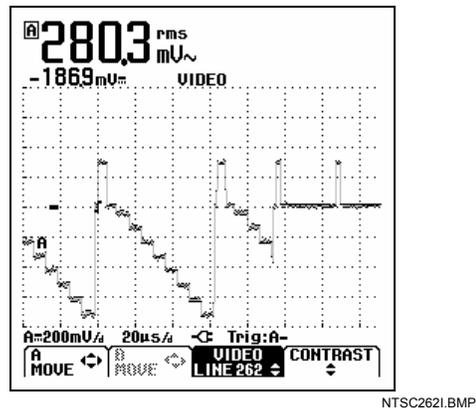

Figure 3-17. Test Tool Screen for NTSC line 262 Negative Video
- ⇒ line number 262 for NTSC, see Figure 3-17.